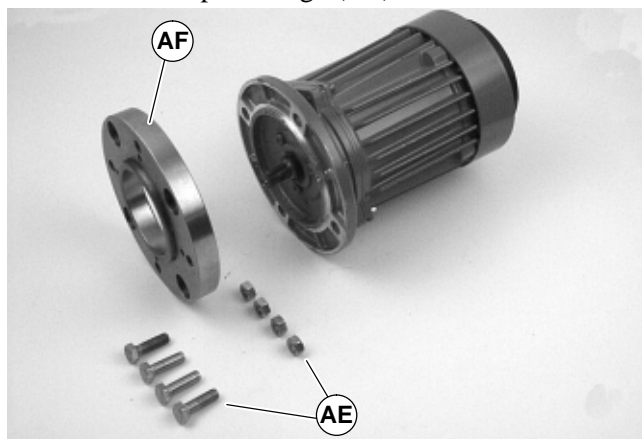

Figure 21
4. Remove four (4) screws and nuts (AE of Figure 21). Remove adapter flange (AF).